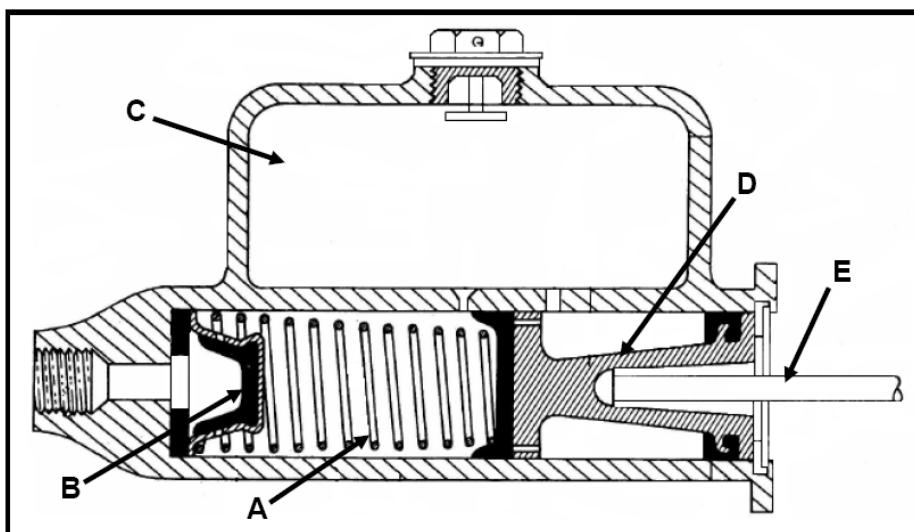

FIGURE 11.2
11.2 FIGURE 11.2 below shows the hydraulic brake master cylinder unit of a motor vehicle. Label A–E in the diagram.